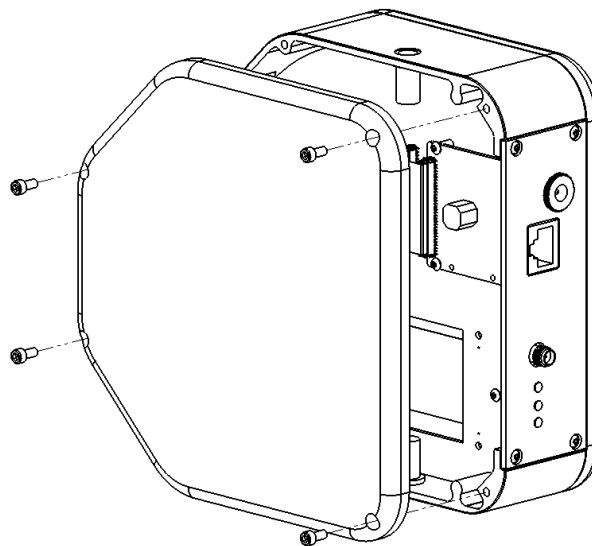

Figure B.1 Remove Back Cover
STEP 1. Remove the back cover by removing the four (4) screws as shown in Figure B.1.